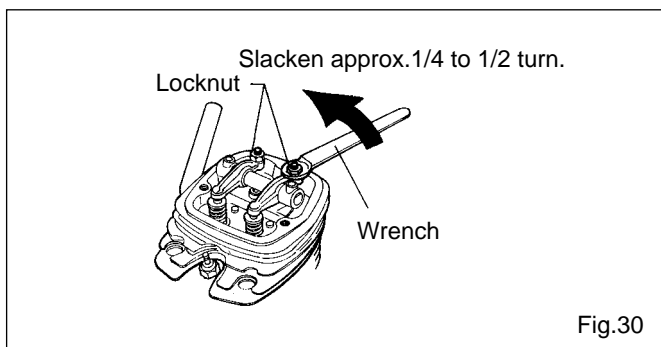

Fig.30
1. Carefully loosen the locknut on rocker-arm 1/4-1/2 turn with 5mm wrench. (Fig.30.)